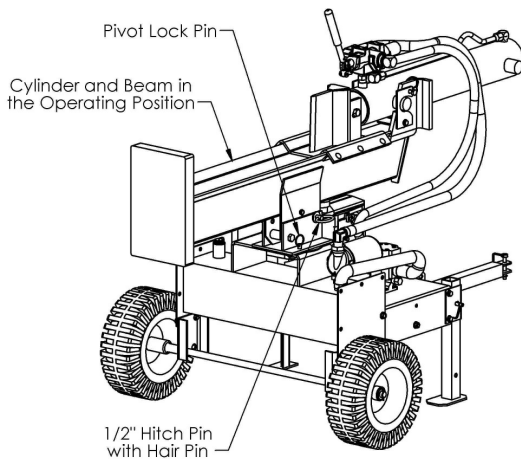
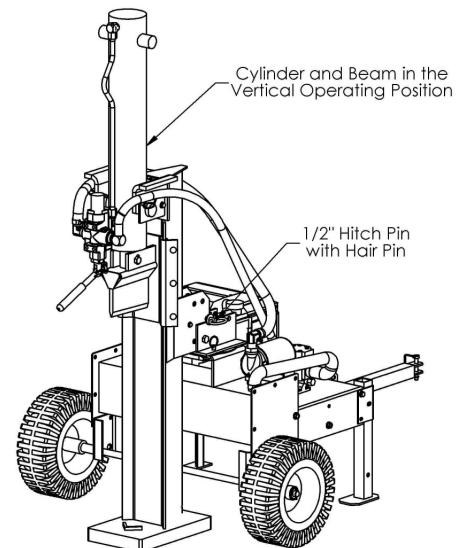

Figure 4
Figure 5
4. Next you need to remove the lock pin from the beam pivot bracket and rotate the beam counter clockwise 90 degrees until the pivot holes are in alignment and reinstall ball lock pin (reference Figure 4). Your splitter is now in the horizontal operating position.
5. Remove the hitch pin from the beam pivot (reference Figure 4). Pivot your beam into the vertical position and reinstall the hitch pin in the center hole (reference Figure 5). Your splitter is now in the vertical operating position.